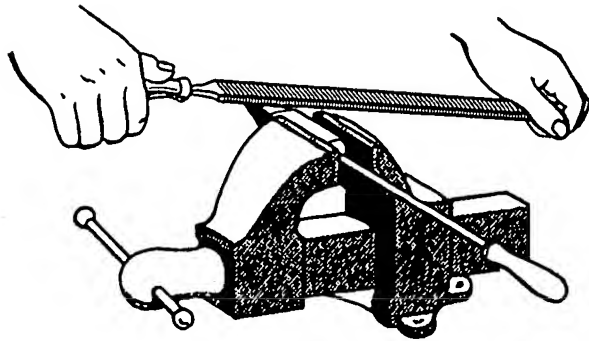

Figure 6-3.—Filing a soldering copper.
2. Clamp the copper in a vise, as shown in figure 6-3.